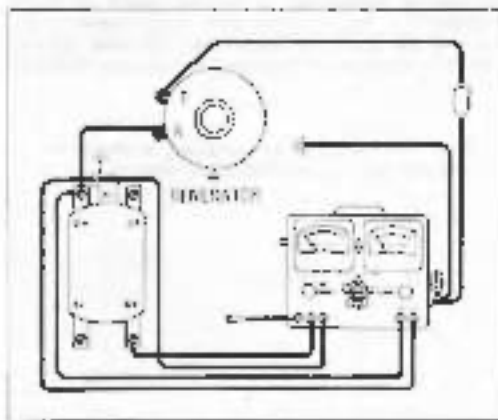

Figure 51-13
B. TESTER CONNECTIONS (SEE FIG. 51-13)